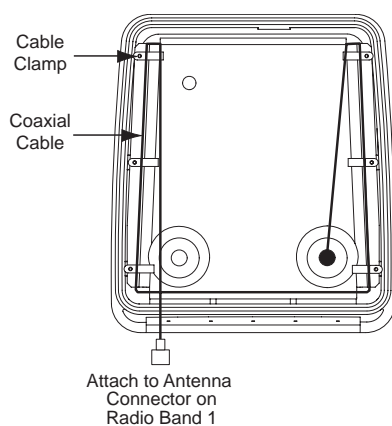
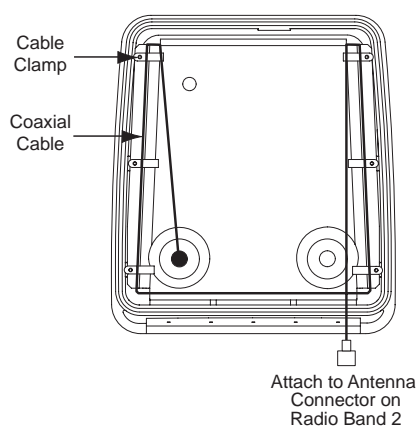

Figure 5-11. Routing the Coaxial Cable for Band 1
Figure 5-12. Routing the Coaxial Cable for Band 2
13. Route the coaxial cable for the 7/800, VHF or UHF antenna(s) through the cable clamps per Figure 5-11 for Band 1 and Figure 5-12 for Band 2.